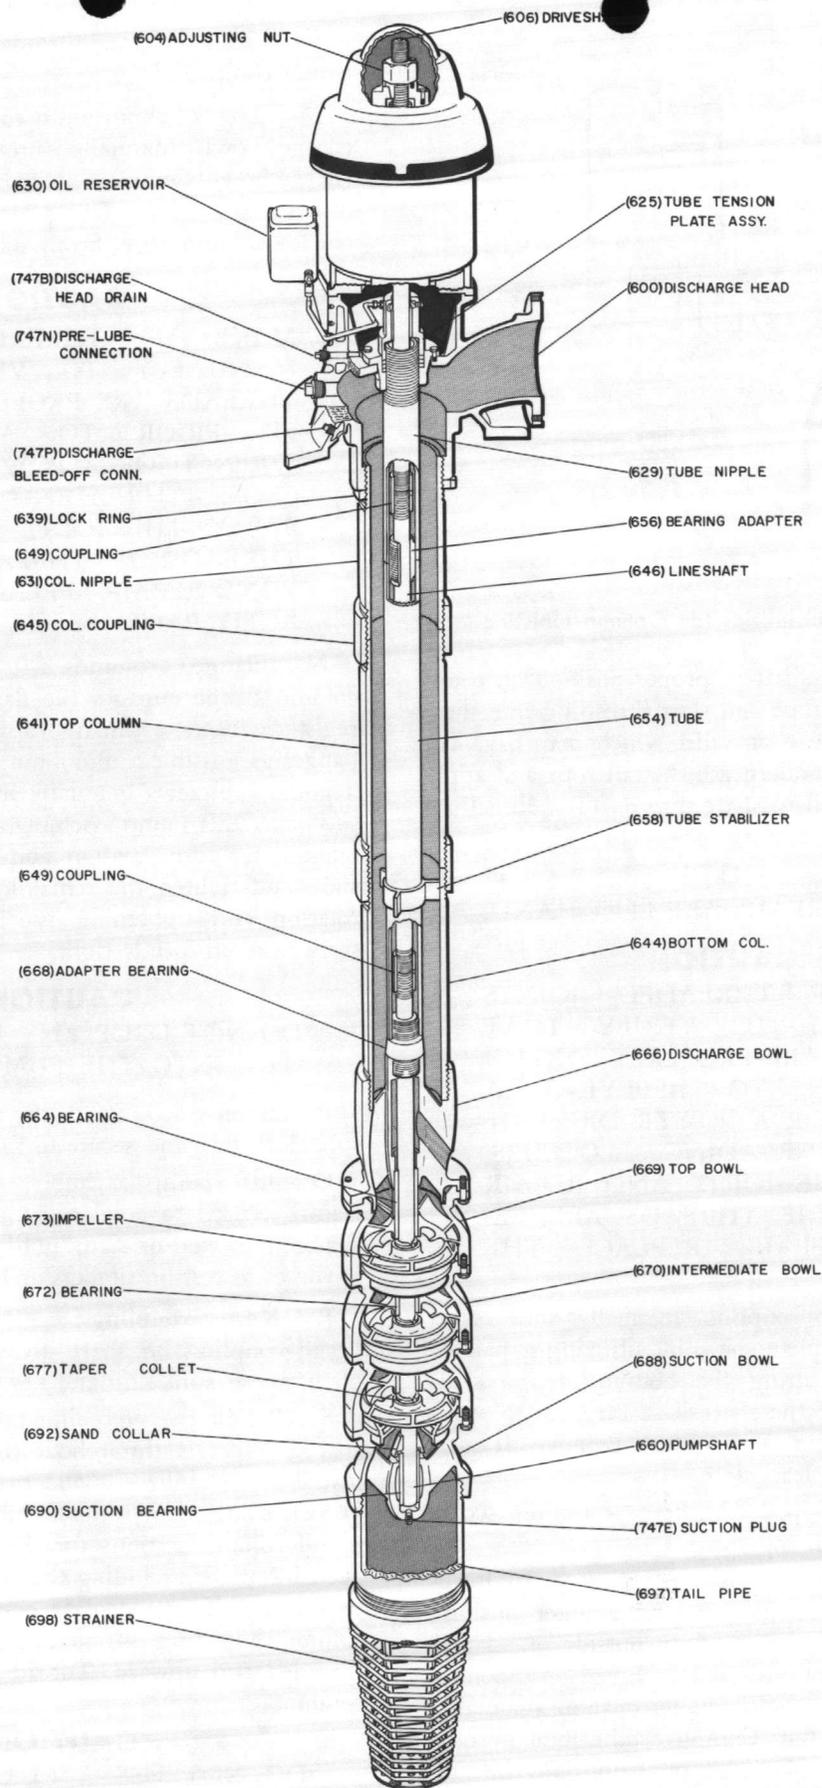

Figure 6-1 Enclosed Lineshaft Pump
### 6-1. INSTALLING OIL LUBRICATION COLUMN (SEE FIGURE 6-1).
D. Slowly lower the discharge head, aligning the vertical hole in the center with the shaft protruding above the column. Continue to lower the discharge head (600), until the large threaded hole in the bottom of discharge head rests squarely on top of column. Rotate discharge head, threading onto column, butting the top of column tightly against the discharge head. (SEE FIGURE 6-1).
E. If pump has a column nipple (631) with product lube, screw the discharge head onto the column nipple until the head shaft (608) extends above the top of pump base, about one inch plus adjusting nut thickness, and the distance through the motor or gearhead drive, often referred to as the C.D. Dimension. For oil lube (enclosed line shaft), the tube nipple (631) should be approximately  $\frac{3}{4}$ " above the surface where the tube tension plate (625) mates with the head (600).